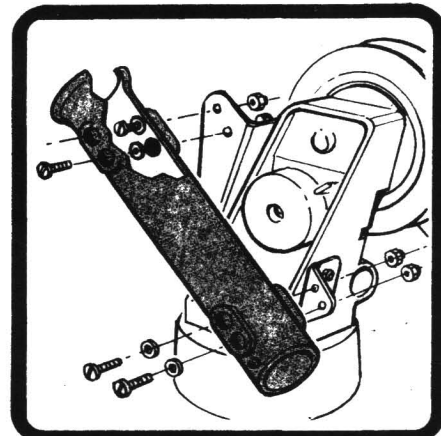

FIG. 4
**8.** While holding the bolts and washers in the rod holder tube, insert them through the holes at the top of the forward mounting bracket and attach with two self-locking nuts, as in fig. 4. Repeat for lower end of rod holder tube and rear mounting bracket. Again, do not tighten nuts to bolts until later.